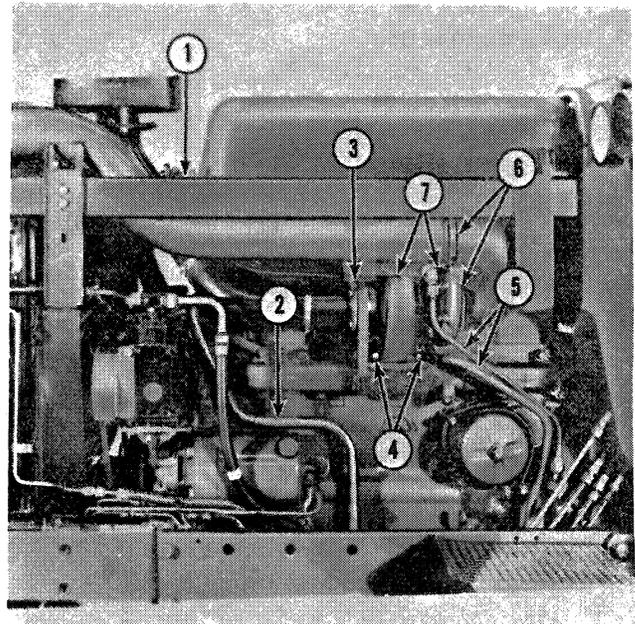
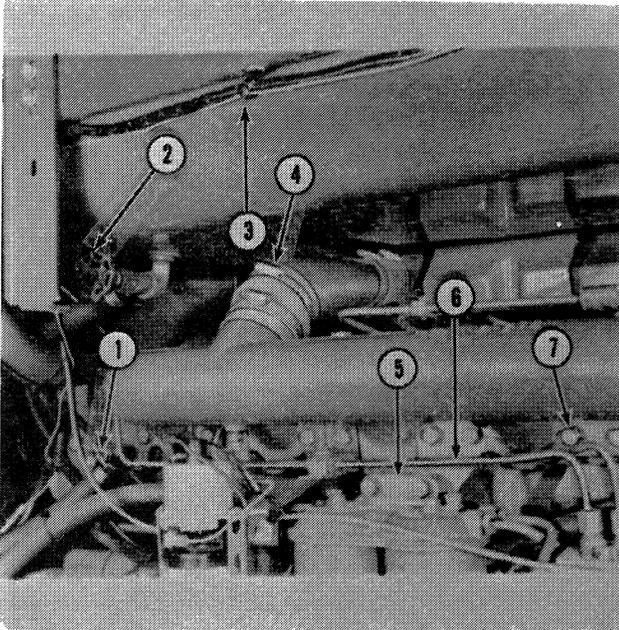

Figure 4
Figure 5
Air Cleaner — Remove the air intake pipe from turbocharger to the radiator support (four clamps), Figure 4. Remove the intake manifold hose, Figure 5.
Turbocharger — Remove the turbocharger oil lines. Remove the four bolts attaching the turbocharger to the exhaust manifold. Remove the turbocharger, Figure 4. Plug all turbocharger parts to prevent the entry of dirt.
4. Shut off the fuel at the main fuel tank, Figure 5.
5. Disconnect the wiring harness at the alternator and air intake sensor. Remove the harness from the fuel tank bracket, Figure 5.
10. Remove fourteen intake manifold bolts and the intake manifold and gasket from the tractor, Figure 5.
12. Drain the engine coolant. Remove the heater hose from the head fitting, Figure 5.